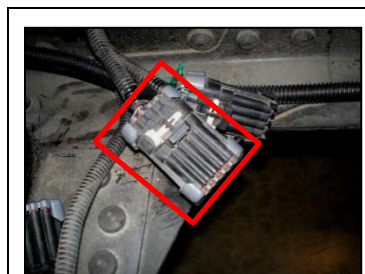

Figure 19
6. At the third cross-member, remove the tape, white locking tab, and cover (discard the tape and cover) of the PTO connector (the larger connector). (See Figure 19.)